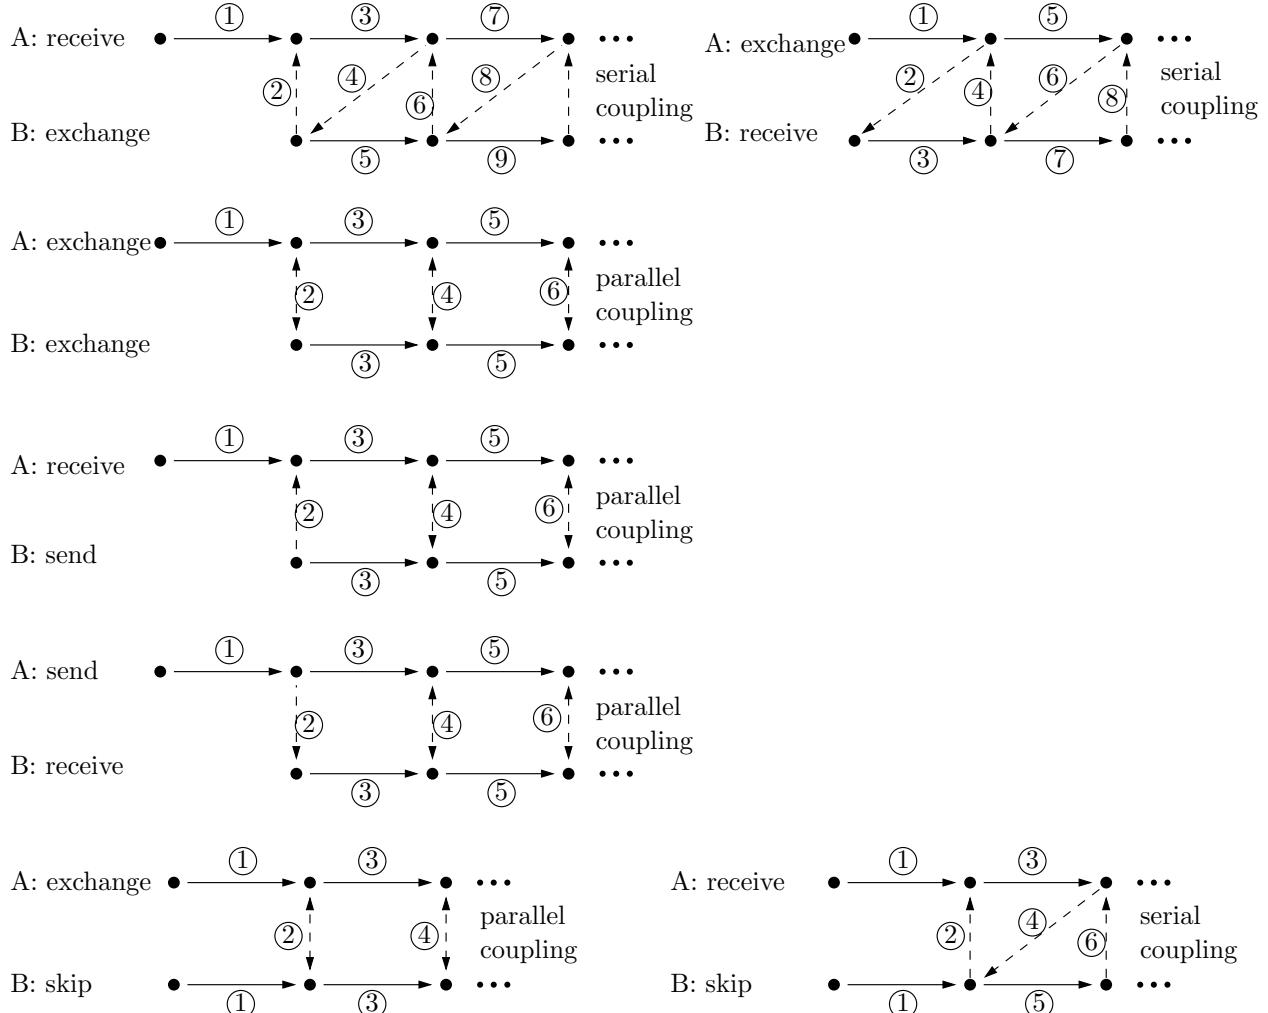

Figure 23: Coupling algorithms for code A with exchange after solution and code B with exchange before solution.
- c) One code exchanges after the iteration, and one before the iteration, which yields a wide variety of algorithms. However, only few can actually be recommended for use. To add further algorithms, one can allow a “dummy step” in the code with exchange after solution, i.e. the “clocks” of both codes are not synchronous. One code is always one time step ahead. Possible algorithms are depicted in Figure 23.